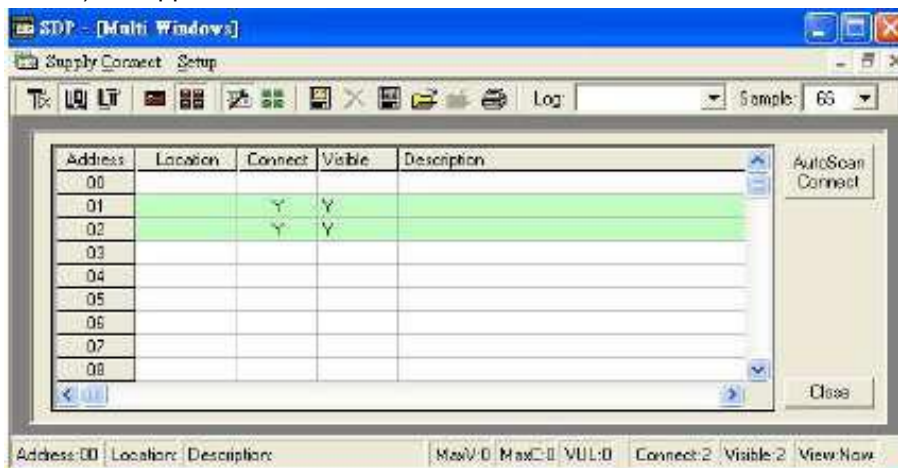

Figure 8.5.1b Multi Power Supply Connect Setup.
3. Click on the icon (circled in red in figure 8.5.1a), a **Multi Power Supply Connect Setup** (Figure 8.5.1b) will appear.
4. Click on **AutoScan Connect**, the window will show the connected power supply indicated as "Y" as shown in Figure 8.5.1b.